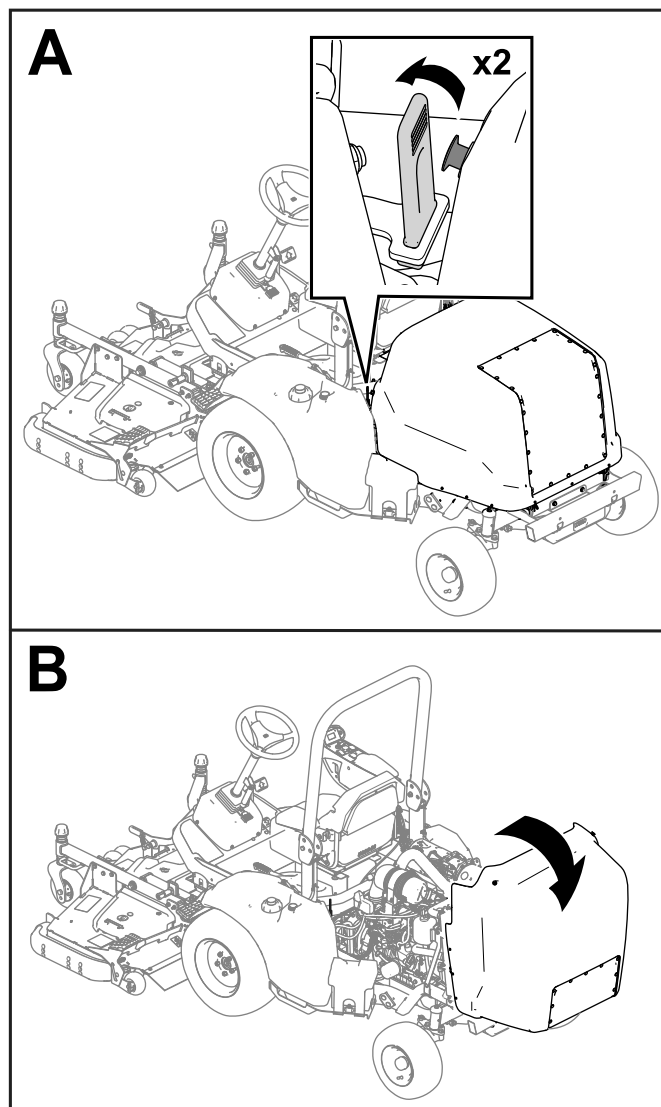

Figure 29
8. Raise the hood (Figure 29).